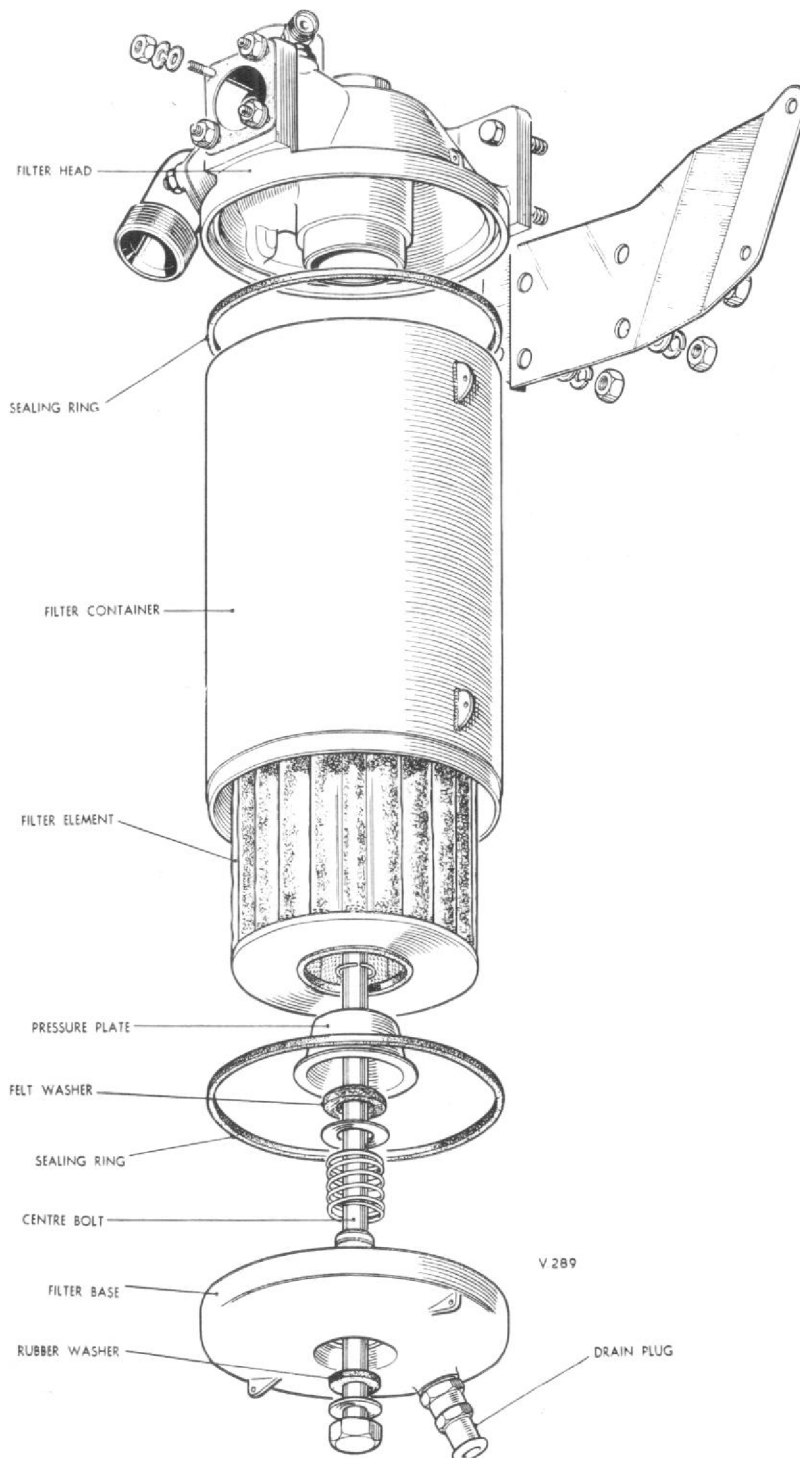

Fig. 2. Tecalemit low-pressure fuel filter.
1. Using a $\frac{3}{8}$ in. Whitworth box or socket spanner, unscrew the centre bolt, the head of which is located in a recess in the filter base, supporting the weight of the filter container as the last few threads are unscrewed, Fig. 2.